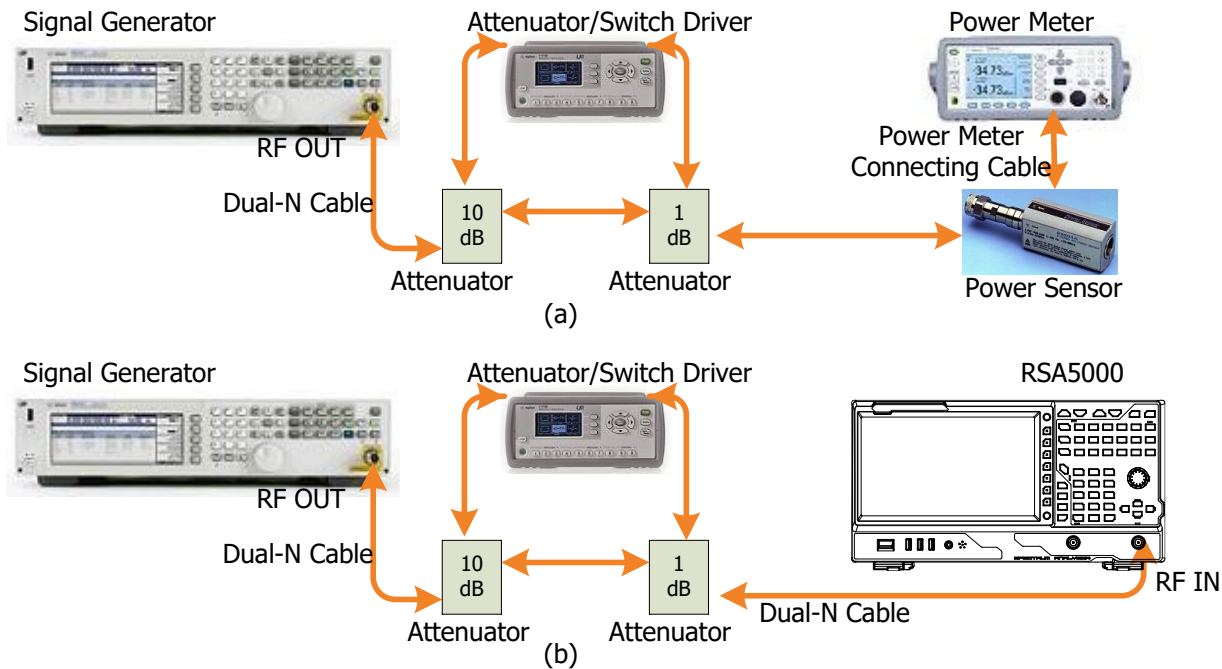

Figure 2-8 Input Attenuation Switching Uncertainty Test Connection Diagram
- Connect the output terminal of the signal generator with the program-controlled attenuator; then, connect the program-controlled attenuator with the power sensor, as shown in Figure 2-8 (a).
6. Disconnect the program-controlled attenuator and the power sensor. Connect the output of the program-controlled attenuator to the RF input terminal of the spectrum analyzer, as shown in Figure 2-8 (b).